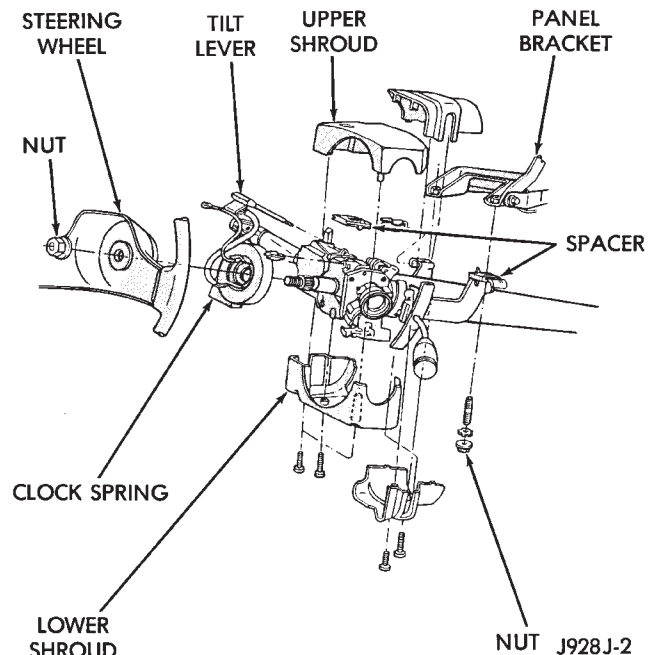

Fig. 47 Shroud Removal/Installation—Typical
- (1) Disconnect negative cable from battery.
- (2) If vehicle has a tilt column, remove tilt lever by turning it counterclockwise.
- (3) Remove upper and lower covers from steering column (Fig. 47).